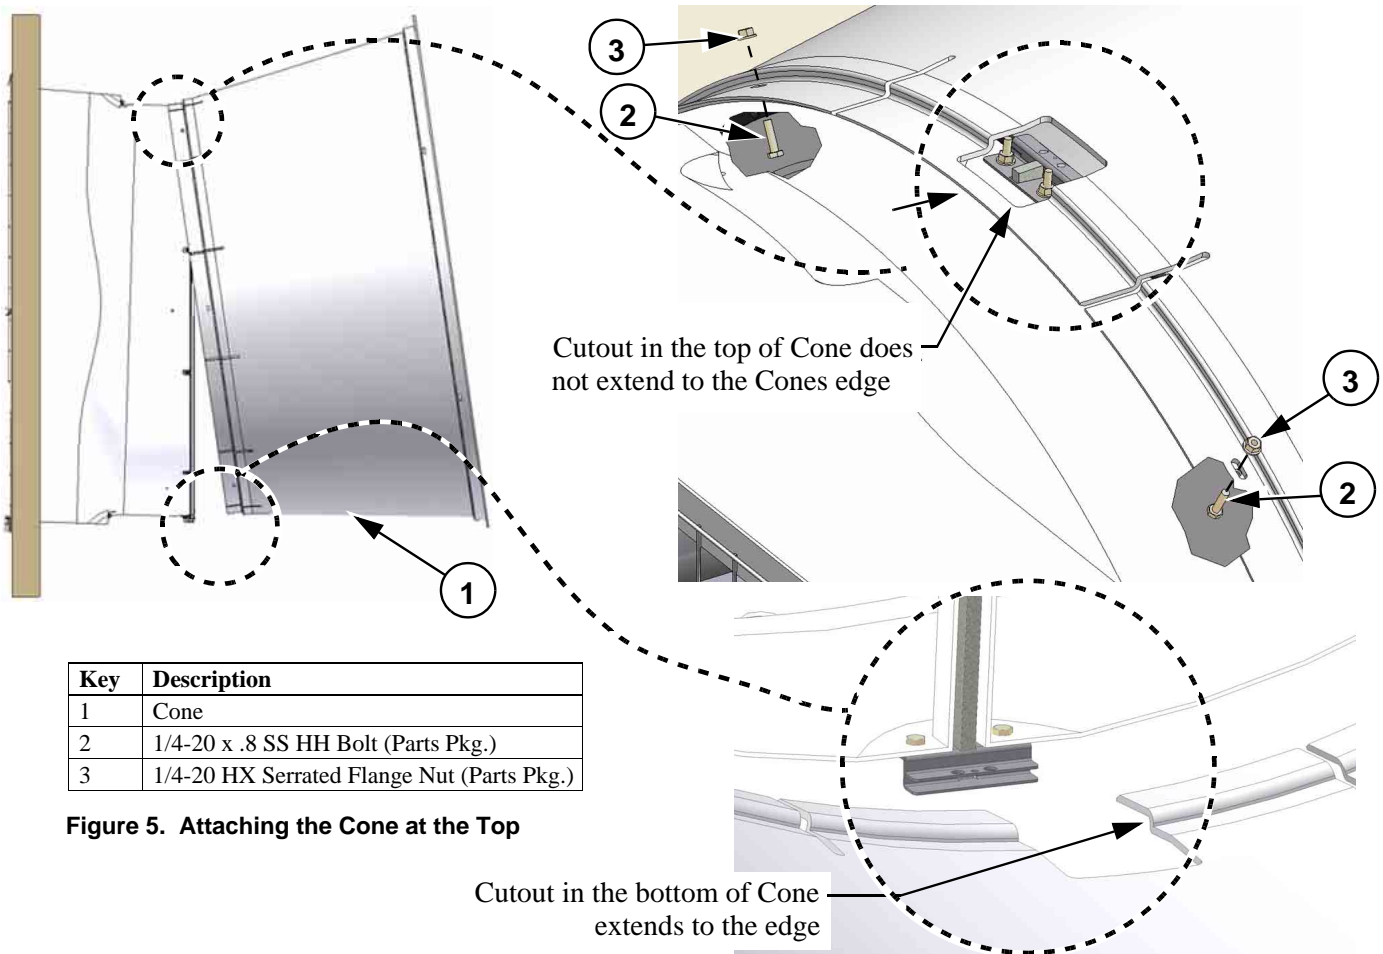

Figure 5. Attaching the Cone at the Top
To install the Cone you must first identify the Top of the Cone. The cutout in the **top of the Cone** does not extend out to the Cones edge (See **Figure 5**). Begin Installing the Cone by hooking the top of the Cone over the top of the Fan orifice. At this time only attach the Cone to the Shroud at the upper most two holes using (2) 1/4-20 Bolts and (2) 1/4-20 Flange Nuts *provided in the Parts Package* (See **Figure 5**).